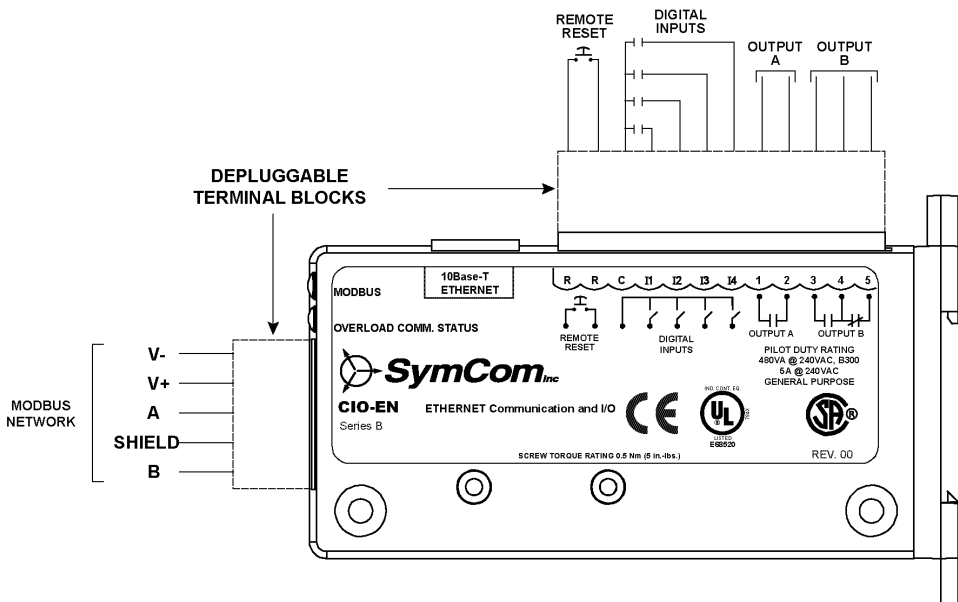

FIGURE 1: Typical Wiring Diagram (CIO-EN)
5. CIO-EN Inputs (refer to Figure 1): Connect one side of each input contact to C and connect the other side to I1, I2, I3, or I4.